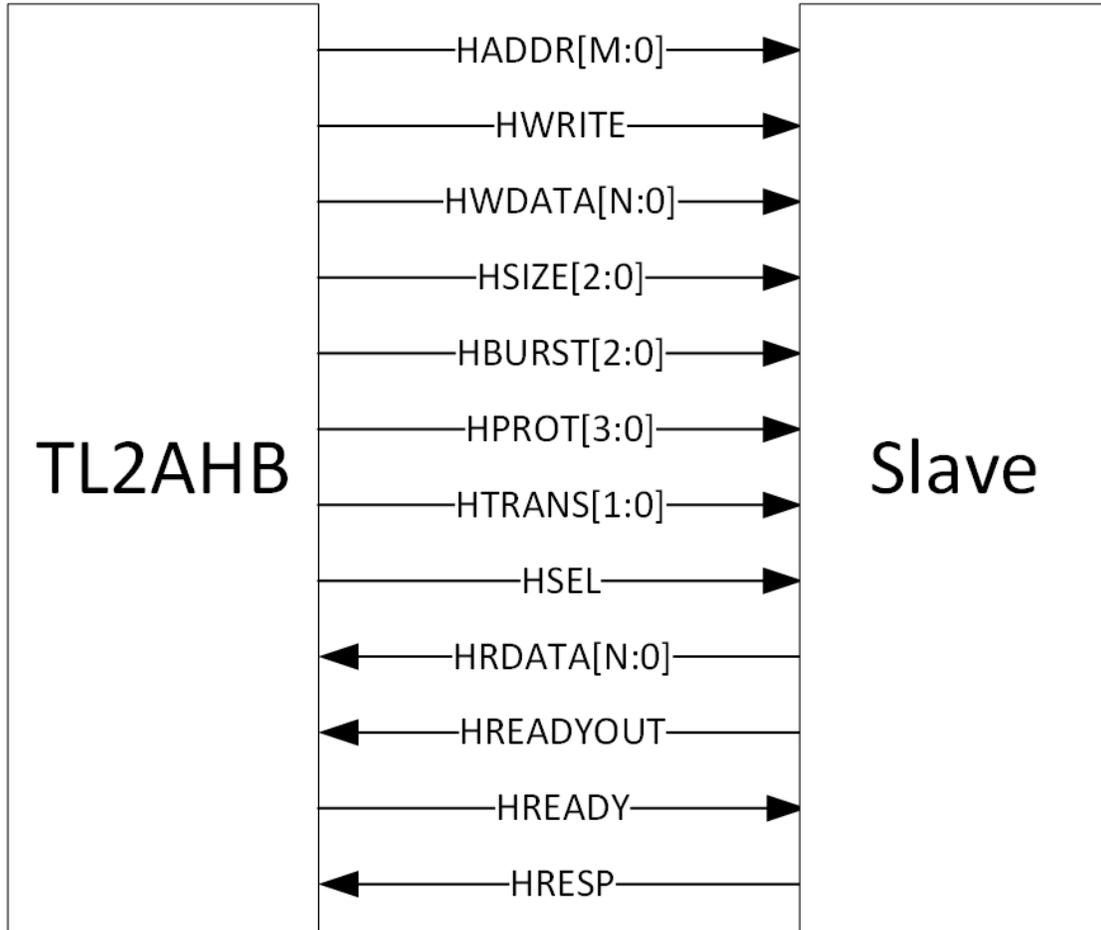

Figure 2: TL2AHB connected directly to a slave
- In this use case, the TL2AHB signals map directly onto the Slave's interface. This is depicted in Figure 2.